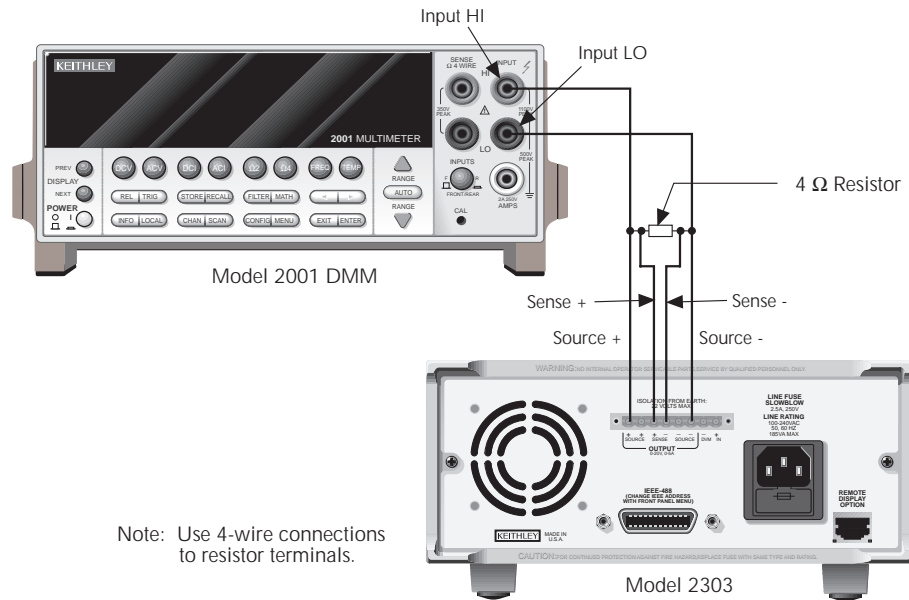

Figure 2-3
8. Connect the digital multimeter volts input and characterized 4Ω resistor to the Model 2303 OUTPUT SOURCE terminals, as shown in Figure 2-3. Be sure to observe proper polarity (SOURCE + to DMM INPUT HI; SOURCE - to INPUT LO).
8. Connect the digital multimeter volts input and characterized 4Ω resistor to the Model 2303-PJ OUTPUT SOURCE terminals, as shown in Figure 2-3. Be sure to observe proper polarity (SOURCE + to DMM INPUT HI; SOURCE - to INPUT LO).